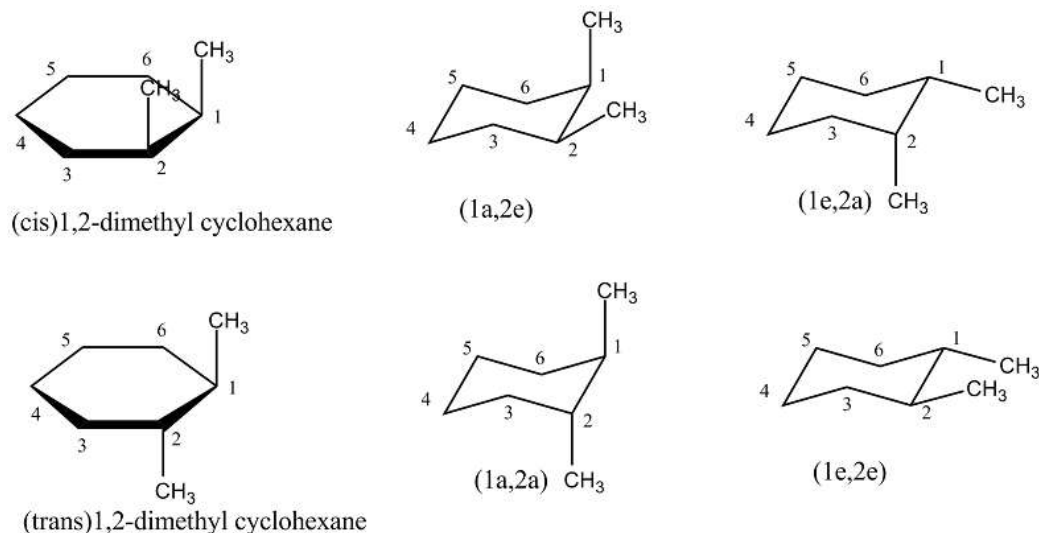

Figure 4.36: Conformations of 1,2-dimethyl cyclohexane
**(cis)1,2-dimethyl cyclohexane** has two conformers (1a,2e) and (1e,2a), here 'a' refers to axial and 'e' to equatorial bonds. Both (1a,2e) and (1e,2a) forms are equally stable as they have equal number of Gauche interactions (three). (fig.4.36)
iterations with the ring  $CH_2$  groups, thus there are 4 gauche interactions whereas as (1e,2e) form has only one Gauche interaction in  $C_1 - C_2$  between  $-CH_3$  groups. Thus (1e,2e) conformer is more stable in (trans)1,2-dimethyl cyclohexane (fig 4.36).